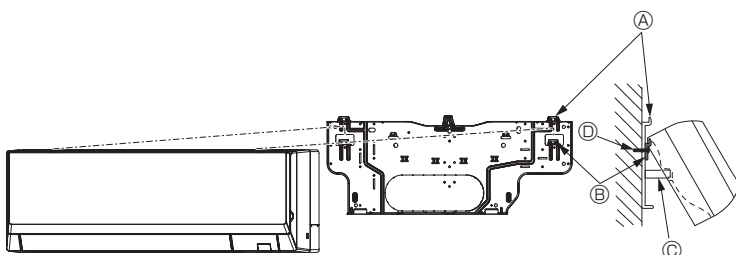

Fig. 3-13
- When the indoor unit cannot be hanged and lifted up with the regular hook (the dimension of 2.1. ④ (the clearance between the ceiling and the unit) is 75 mm or less), hang the unit on the lower hook for left piping. (Fig. 3-13)
(Fig. 3-13)